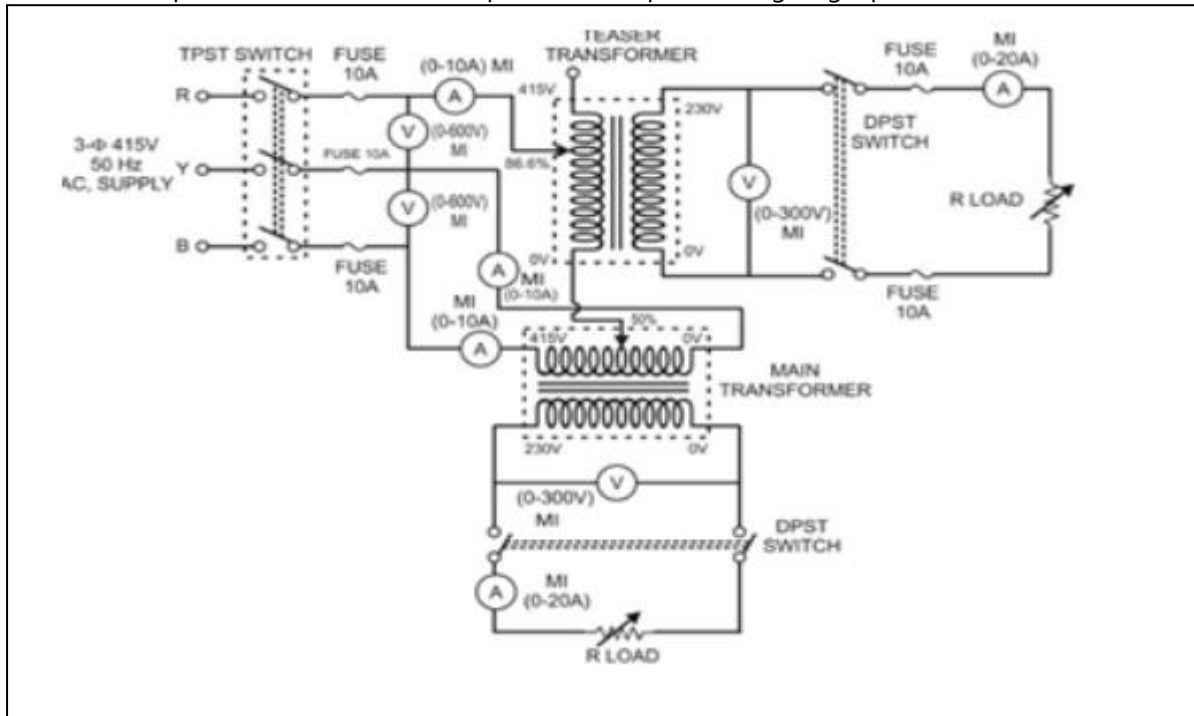

Figure 4 - SCOTT CONNECTION OF TRANSFORMERS
1. Calculate the different currents and voltages by using voltmeters and ammeters from Figure 4